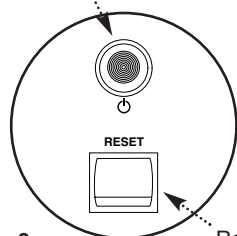

Fig. 9
3. **To reset:** Press the reset switch to relight the boiler (Fig. 9).